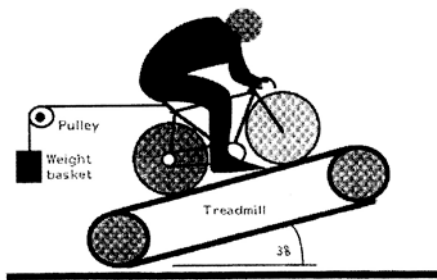

Figure 1. Treadmill cycle ergometry
- The procedure involves cycling on an inclined motorised treadmill whilst attached to a pulley (see Figure 1). The exercise intensity is regulated by addition of weights to the pulley system as per that described by Jakeman *et al. British Journal of Sports Medicine* 27, 157-161 (1993).